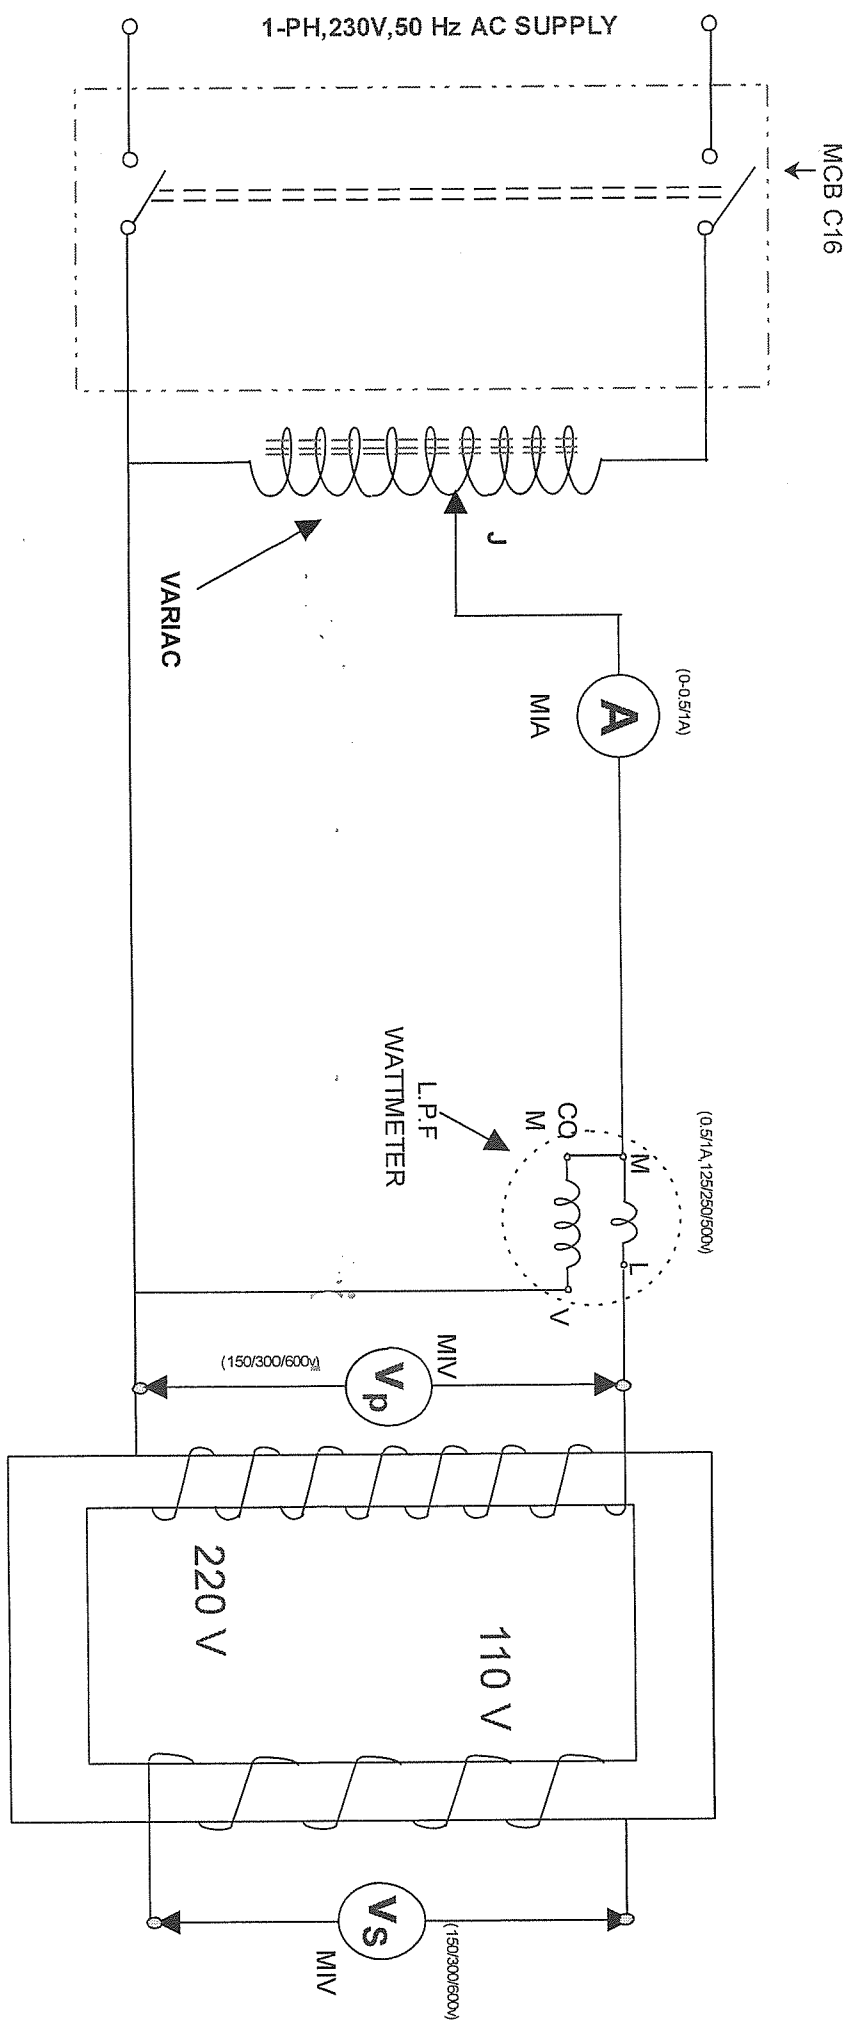

Fig:5.1 Circuit Diagram for Connection of No Load Test of Single Phase Transformer
- 1) Make connections as shown in the Fig.5.1 and switch on the supply voltage with the Variac in the zero output position.